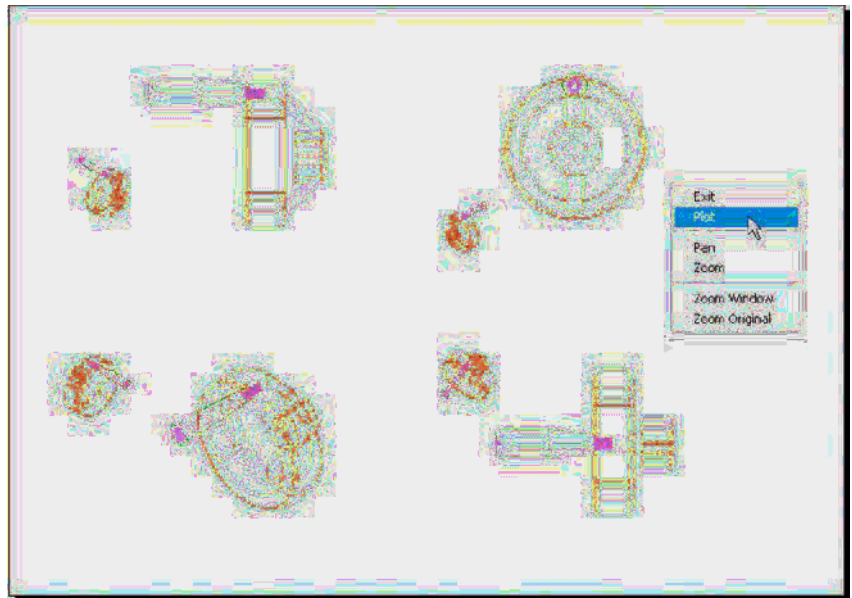

Fig. 19.13 Polygonal viewports – plot preview after turning the layer vports off
12. Turn the layer **vports** off. The viewport borders disappear (Fig. 19.13).